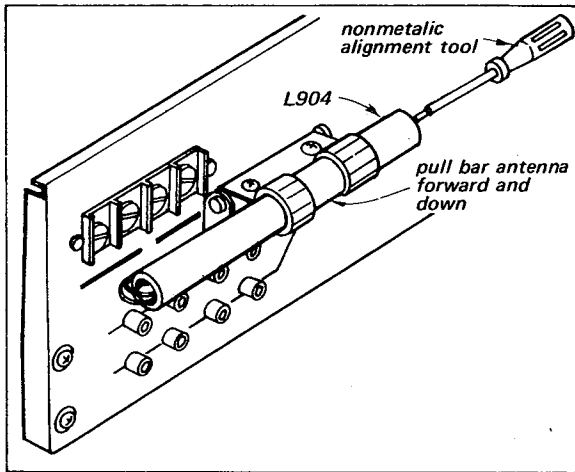

Fig. 3-15. A-m bar antenna core adjustment
1. Tune the set to the station whose carrier frequency is closest to 620 kHz and adjust the position of antenna core L904 as shown in Fig. 3-15 to obtain maximum output.